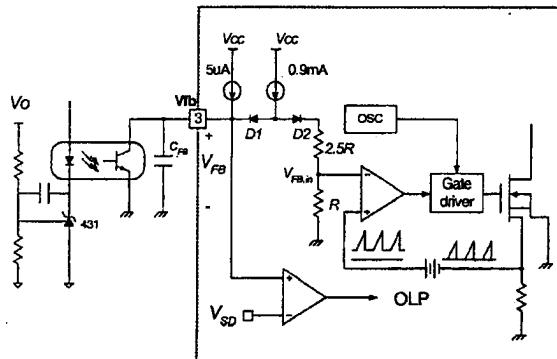

Figure 5. Pulse Width Modulation (PWM) Circuit
2. Feedback Control: The 700V FPS series employs current mode control, as shown in Figure 5. An optocoupler (such as the H11A817A) and shunt regulator (such as the KA431) are typically used to implement the feedback network. Comparing the feedback voltage with the voltage across the Rsense resistor of Sense FET plus an offset voltage makes it possible to control the switching duty cycle. When the KA431 reference pin voltage exceeds the internal reference voltage of 2.5V, the optocoupler LED current increases, the feedback voltage Vfb is pulled down and thereby reduces the duty cycle. This typically happens when the input voltage increases or the output load decreases.
4.3 Over Voltage Protection (OVP): In the event of a malfunction in the secondary side feedback circuit, or an open feedback loop caused by a soldering defect, the current through the optocoupler transistor becomes almost zero (refer to Figure 5). Then, V_{FB} climbs up in a similar manner to the overload situation, forcing the preset maximum current to be supplied to the SMPS until the overload protection is activated. Because excess energy is provided to the output, the output voltage may exceed the rated voltage before the overload protection is activated, resulting in the breakdown of the devices in the secondary side. In order to prevent this situation; an Over Voltage Protection (OVP) circuit is employed. In general, V_{CC} is proportional to the output voltage and the FPS uses V_{CC} instead of directly monitoring the output voltage. If V_{CC} exceeds 19V, OVP circuit is activated resulting in termination of the switching operation. In order to avoid undesired activation of OVP during normal operation, V_{CC} should be designed to be below 19V.